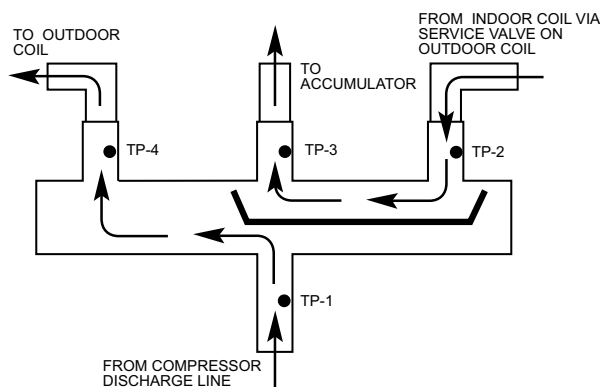
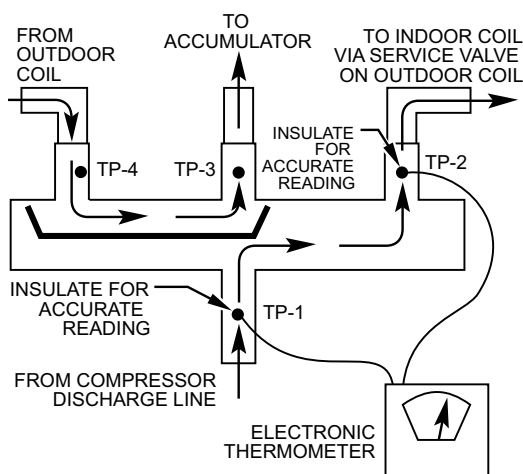

Fig. 45 – Reversing Valve
Fig. 46 – Reversing Valve
Using a remote measuring device, check inlet and outlet line temperatures. DO NOT touch lines. If reversing valve is operating normally, inlet and outlet temperatures on appropriate lines should be close to each other. Any difference would be due to heat loss or gain across valve body. Temperatures are best checked with a remote reading electronic-type thermometer with multiple probes. Route thermocouple leads to inside of coil area through service valve mounting plate area underneath coil. Fig. 45 and Fig. 46 show test points (TP) on reversing valve for recording temperatures. Insulate points for more accurate reading. If valve is defective: